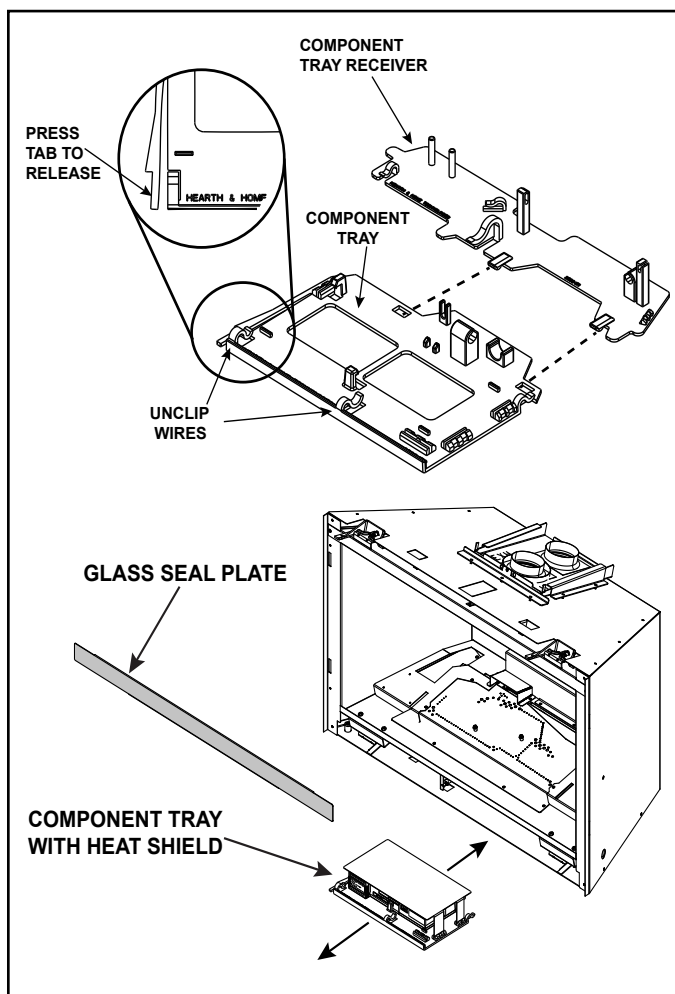

Figure 2 Component Tray
4. To access controls, press component tray tab and slide component tray out. See Figure 2.
**Note:** Wires may need to be removed from clips for full access. See Figure 2.